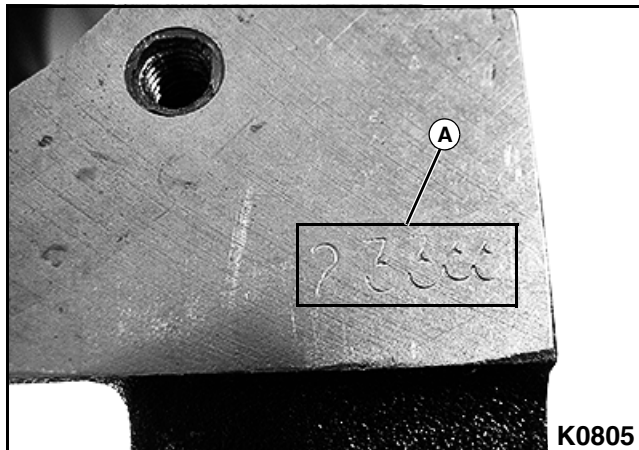

Figure 3-235
Main bearing bore is grouped in 3 groups. First to fifth main bearing bore-grouping marks are on the bottom surface of the cylinder block, rear end and right side (A). Main bearings are divided into 3 groups also, matching main bearing bore group. **See Figure 3-235.**